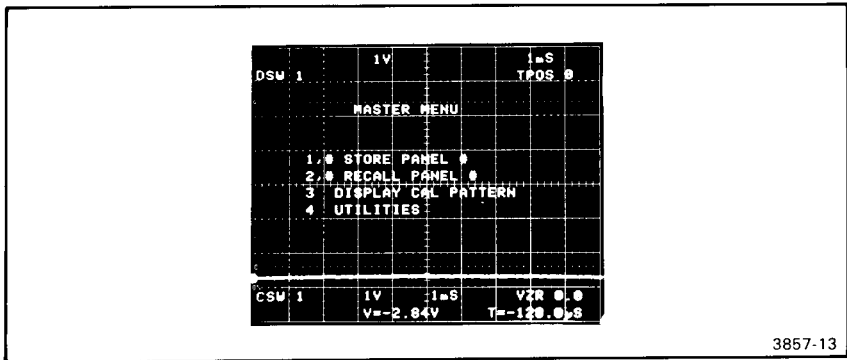
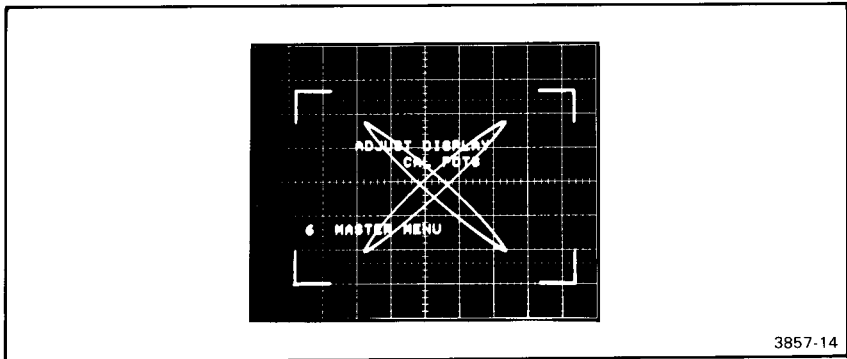

Figure 2-5. 7D20 MASTER MENU.
Figure 2-6. 7D20 DISPLAY CAL PATTERN.
Step 1 Press MENU, then press MEMORY DISPLAY key 3 to select the DISPLAY CAL PATTERN from the MASTER MENU (Fig. 2-5). Once the DISPLAY CAL PATTERN is selected the display will appear similar to that shown in Figure 2-6. You may find it necessary to adjust the TRACE ROTATION control on the host mainframe to make the vertical and horizontal lines of the DISPLAY CAL PATTERN parallel with those of the display graticule.